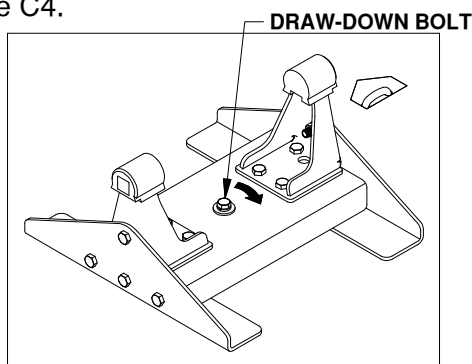

Figure C4. View of Companion base.
- Tighten the 1/2" x 3-1/2" draw-down bolt to 60 ft-lbs, see Figure C4.